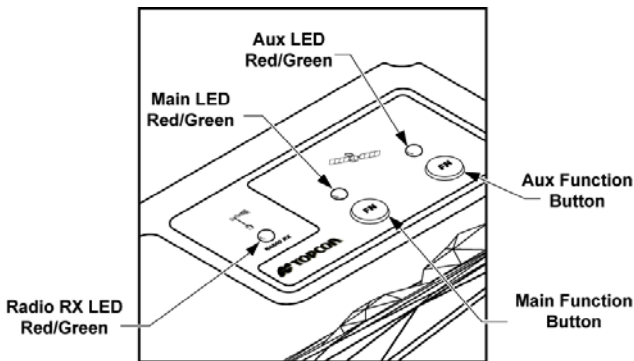

Figure 2-14. MC-2.5 GPS Receiver Box Indicators
Three LED indicators on the MC-2.5 GPS Receiver Box provide status on power, satellites, and radio signal (Figure 2-14 on page 2-16). Two function (FN) buttons provide diagnostic and reset for the internal receiver boards.